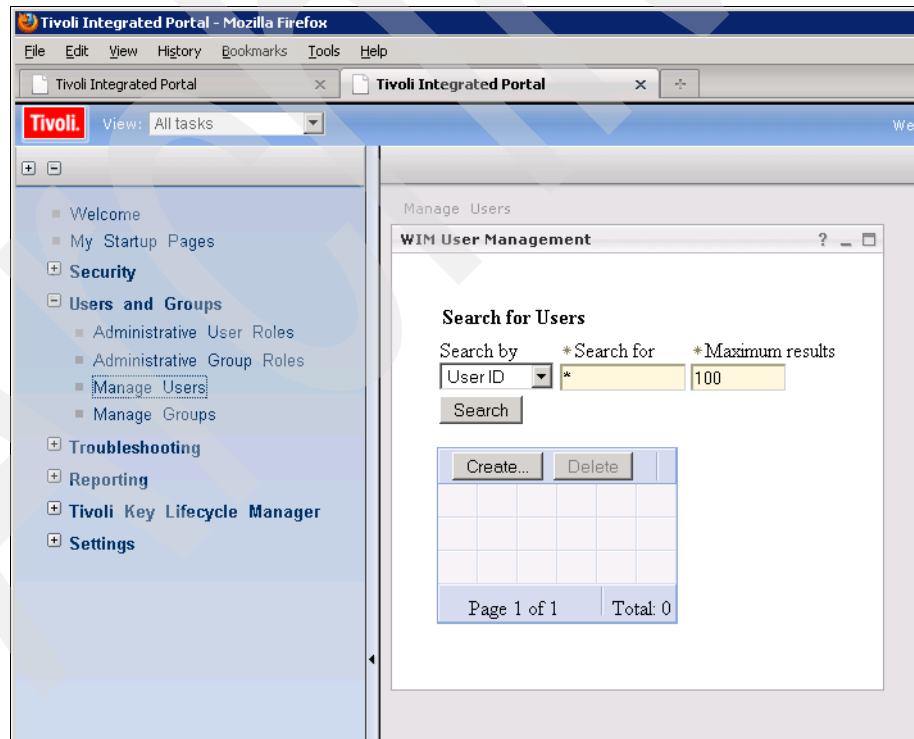

Figure 9-4 Search for users
- Figure 9-4 shows the **Search for Users** panel. You can either search for a user to model the new user profile on or create a totally new one; this scenario shows the creation of a new user. Click **Create**.